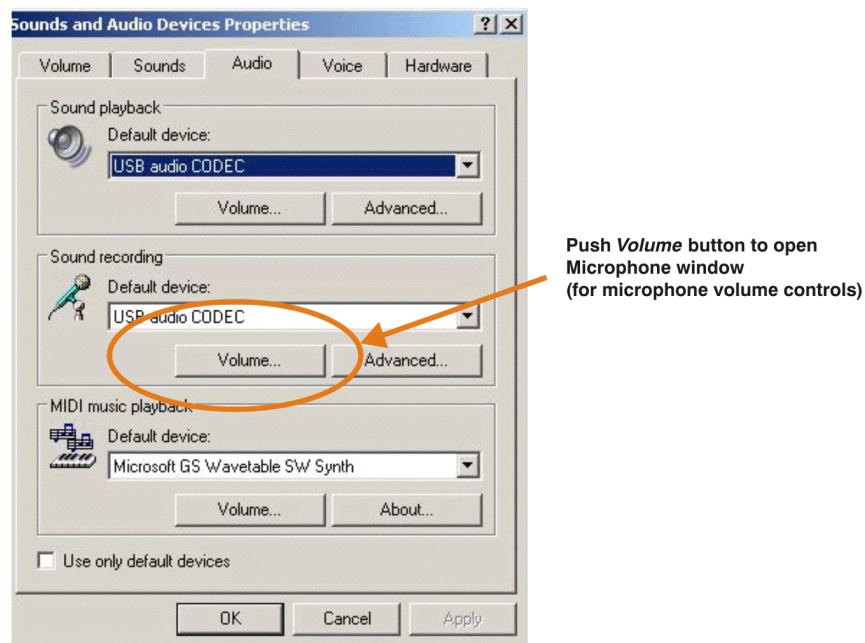

Figure 3-10. Sound and Audio Devices Properties—Audio Tab (Windows XP)
2. Open the *Sound and Audio Devices Properties* dialog box and select the *Microphone* tab, as Figure 3-10 illustrates.